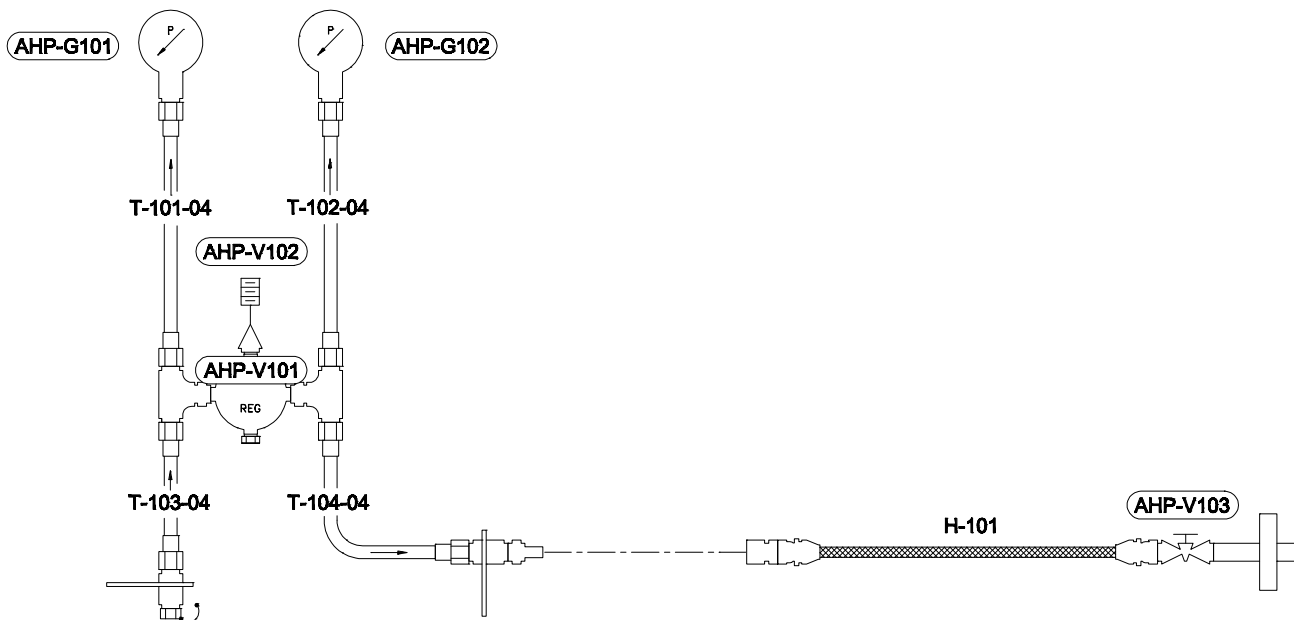

Figure 3-3. BARS Flow Diagram
3.2.4 Airflow. Figure 3-3 provides a flow diagram showing the direction of airflow within the BARS. The BARS requires the use of an external HP air source capable of supplying breathing air of Grade D or better quality (as defined by CGA G-7.1-1989) at a pressure of $3,000 \pm 50$ psig. The HP air source must also have passed an air sample test within the last three months. When the HP air source is connected and opened, HP air enters the BARS and flows into regulator (AHP-V101) at the pressure indicated on inlet pressure gauge (AHP-G101). The operator-controlled regulator is used to reduce the HP air supply from a maximum pressure of 5,000 psig down to 3,000